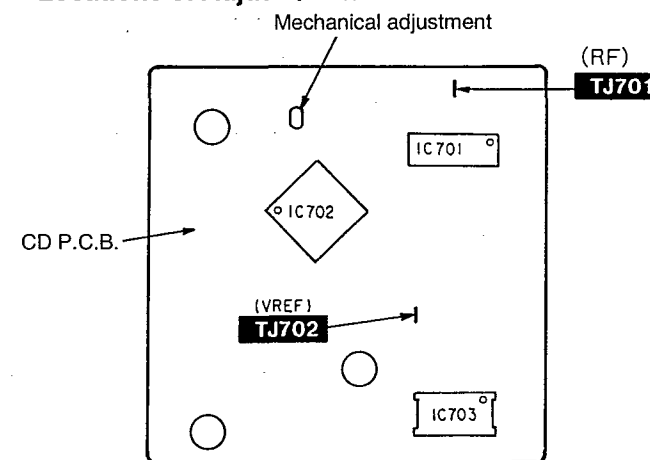

Fig. 8
4. Alternately adjust the two mechanical adjusting screws with the 2.0 mm allen wrench (SZZP1101C) until the RF signal amplitude on the oscilloscope is maximize. (Shown in Fig. 8)
① Maximize the amplitude.